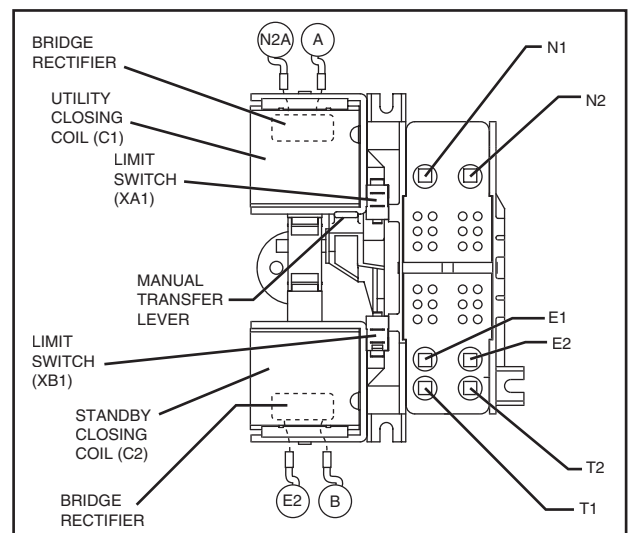

Figure 4. The "V-Type" Transfer Mechanism
See Figure 4. This coil is energized by rectified utility source power, to actuate the load contacts to the "Utility" power source side. When energized, the coil will move the main contacts to an "overcenter" position. A limit switch will then be actuated to open the circuit and spring force will complete the retransfer to "Standby". A bridge rectifier, which changes the utility source alternating current (AC) to direct current (DC), is sealed in the coil wrappings. If coil or bridge rectifier replacement becomes necessary, the entire coil and bridge assembly should be replaced.
Transfer relay operation is controlled by a control circuit board mounted on the standby generator set. The standby system installer must interconnect suitable wiring to terminals 23 and 194 of a transfer switch terminal block. He must interconnect that wiring with identically numbered terminals in the generators control board. See Section 1.2, Figure 4.